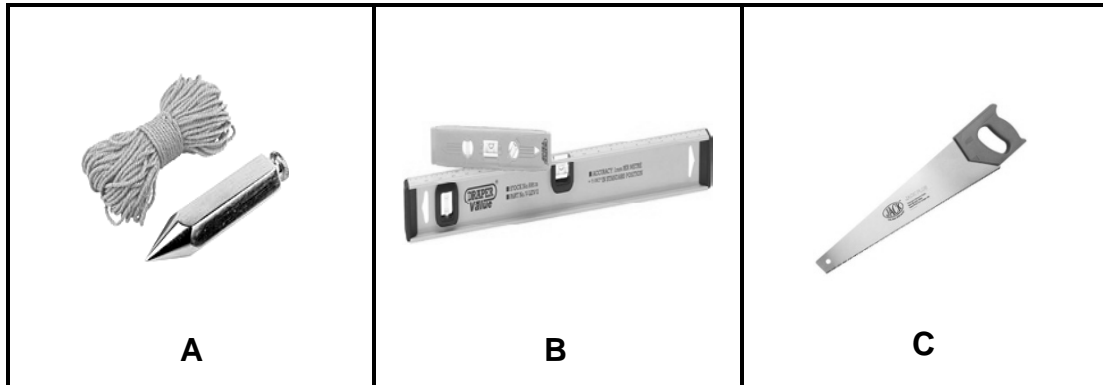

FIGURE 2.2
- 2.2 FIGURE 2.2 below shows hand tools that are used on a site and in a workshop. Write down the correct name of each tool next to the letter (A–C) in the ANSWER BOOK.